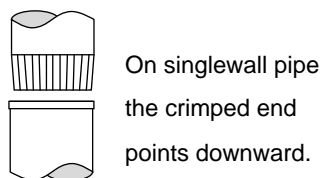

Figure 3
- The chimney connector must be installed with the crimped end pointing downwards (see Figure 3). This prevents creosote from leaking to the exterior of the pipe.